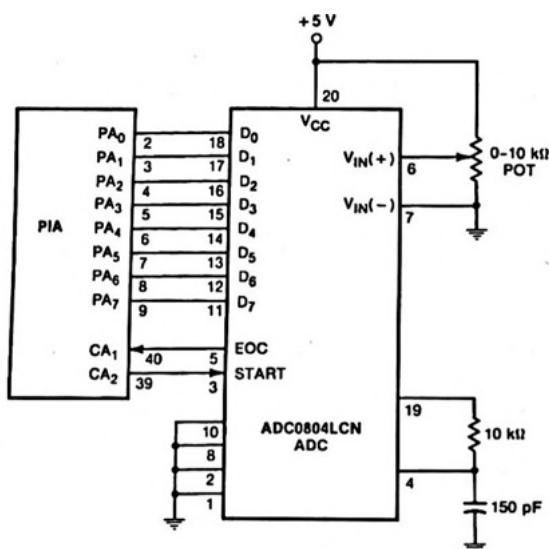

Figure 6-26
Schematic Diagram (Fig. 6-26)
Step 1 — Turn the computer power off and connect the ADC0804LCN to the PIA interface as shown in Fig. 6-26. (*Caution:*
You have connected the ADC to port A of the PIA interface. The first line of the program configures port A for the input operation by writing the value 44_{10} to the port A control register at address 65345. The program then starts the conversion process by reading the port A data register located at address 65344. Recall that with this configuration a read operation on port A will cause a pulse to be generated on the CA2 output control line. Consequently, the ADC conversion process is started since the CA2 output line is connected to the ADC START line (see Fig. 6-26). The program then polls the bit 7 status of the port A control register located at address 65345 (lines 40 and 50). Since the End-of-Conversion line of the ADC is connected to the CA1 input control line of the PIA, bit 7 of the port A control register will set when the conversion is complete. Once the conversion is complete, the converted value is read from port A (line 20), and displayed on the TV monitor (line 30).